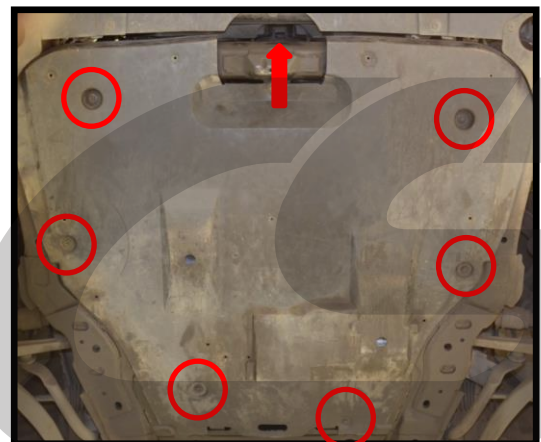

Figure 6c
- d) Remove the six 10mm bolts holding the engine undertray. **Red circles** in **Figure 6c.** Remove the engine undertray.
- e) Drain approximately 1 gallon from the coolant system. The drain is centered on the bottom of the radiator. See the **red arrow** in **Figure 6c.**